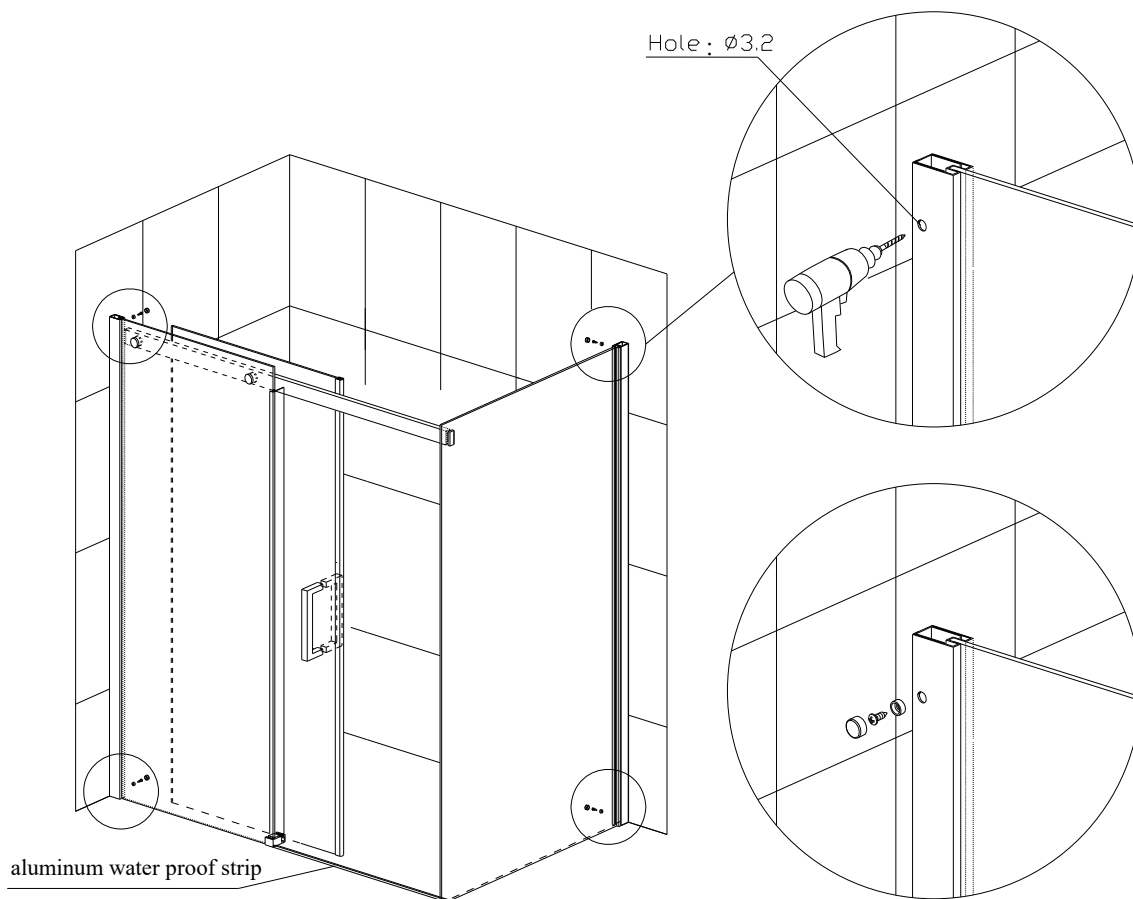

FIG. 12
- 12) Adjust the upper wheels to make sure the sliding doors move smoothly and in good sealing. Drill a hole in $\phi 3.2\text{mm}$ on the connection between fixed door and wall connecting profile. And tighten them by M4x10 (21) screw. As Fig. 12
- 13) Fix the aluminum water proof strip (27) with the glass cement on the floor or on the shower tray. As Fig. 12